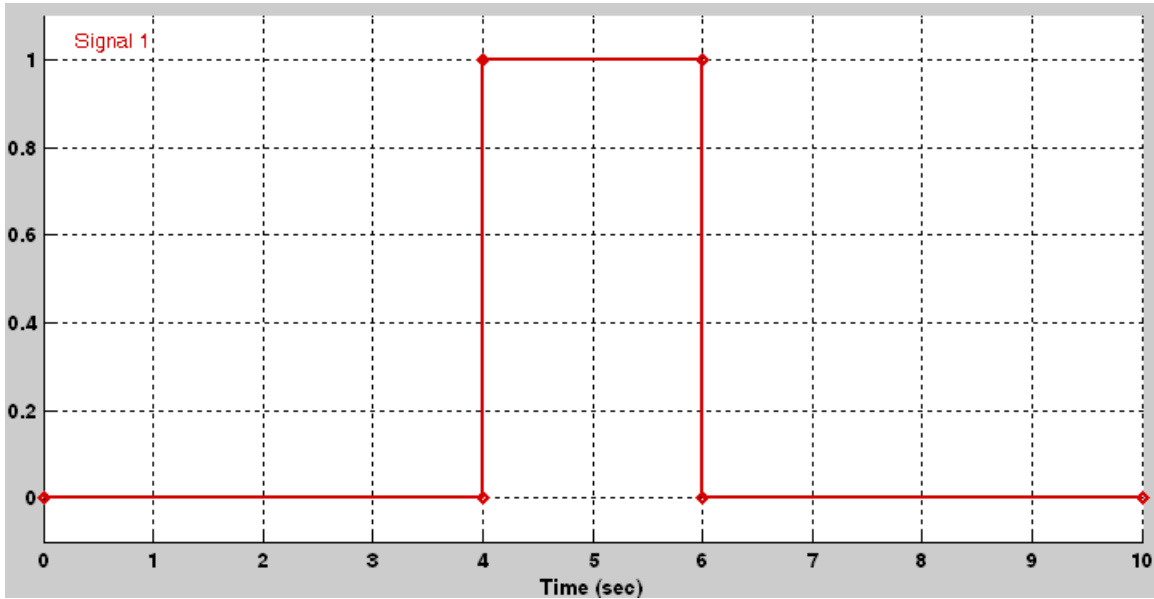

Figure 15.7. Waveform displayed when the Signal Builder block is double–clicked the first time
1. We first double–click on the **Signal Builder** block, and a waveform similar to that shown in Figure 15.7 is displayed. The points at the ends of each line segment indicate that this waveform is selected. To deselect it, we press the **Esc** key.